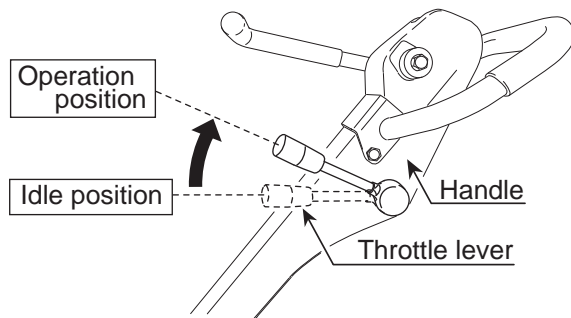

Figure 20. Throttle Lever (Operation Position)
1. Once the engine has started, move the engine throttle lever quickly to the **operation** position (Figure 20).